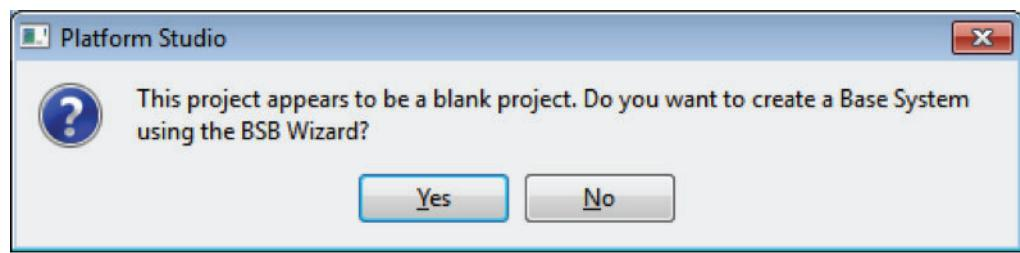

Figure 23: BSB Wizard Dialog
5. This starts the XPS tool. The dialog in Figure 23 appears prompting to create a Base System using the BSB Wizard. Select **Yes**.